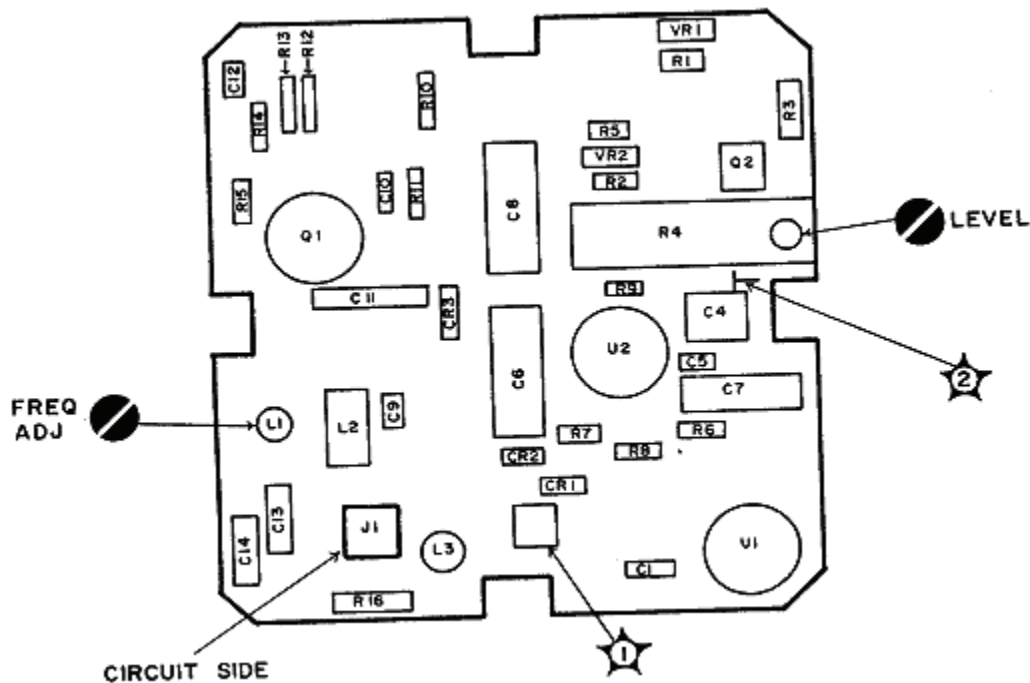

Figure 5. REF FREQ and LEVEL adjustments.
(2) Grasp power reference oscillator assembly firmly, and remove four screws which secure it to power meter chassis.
(3) Tilt power reference oscillator assembly to gain access to circuit board underneath metal cover, and adjust A8L1 (**FREQ ADJ**) (fig. 5) to obtain a 50.00 MHz indication on counter (R).
(4) Reposition power reference oscillator on power meter chassis but do not replace mounting screws.
(5) Observe indication on the counter. If it is 50.0 MHz, the adjustment procedure is complete. If it is not within these limits, repeat **b** (3) except offset power reference oscillator frequency as required to obtain a **50.0 MHz** indication on counter when power reference oscillator assembly is repositioned on power meter chassis.
(13) If calculated PRF is not between 0.993 and 1.007 mW, perform **b** below.
b. Adjustments. Remove TI top cover and set TI **POWER REF** switch to **ON** (in) and adjust A8R4 LEVEL (fig. 5) so that calculated PRF in **a** (13) above is 1 mW.